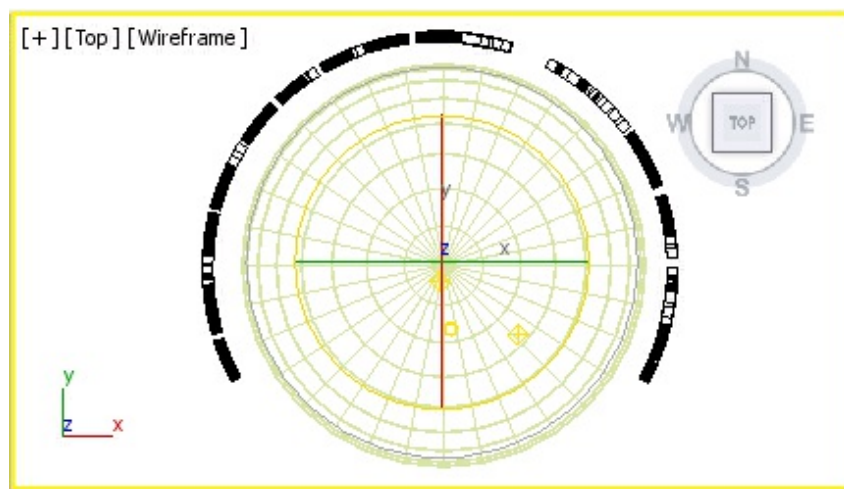

Figure 14-66 The Text001 rotated in the Top viewport
7. Choose the **Select and Rotate** tool and rotate *Text001* in the Top viewport along the Z-axis until the value in the **Z** spinner becomes **-180** in the coordinate display. Next, choose the **Select and Move** tool and align *Text001*, as shown in Figure 14-66.